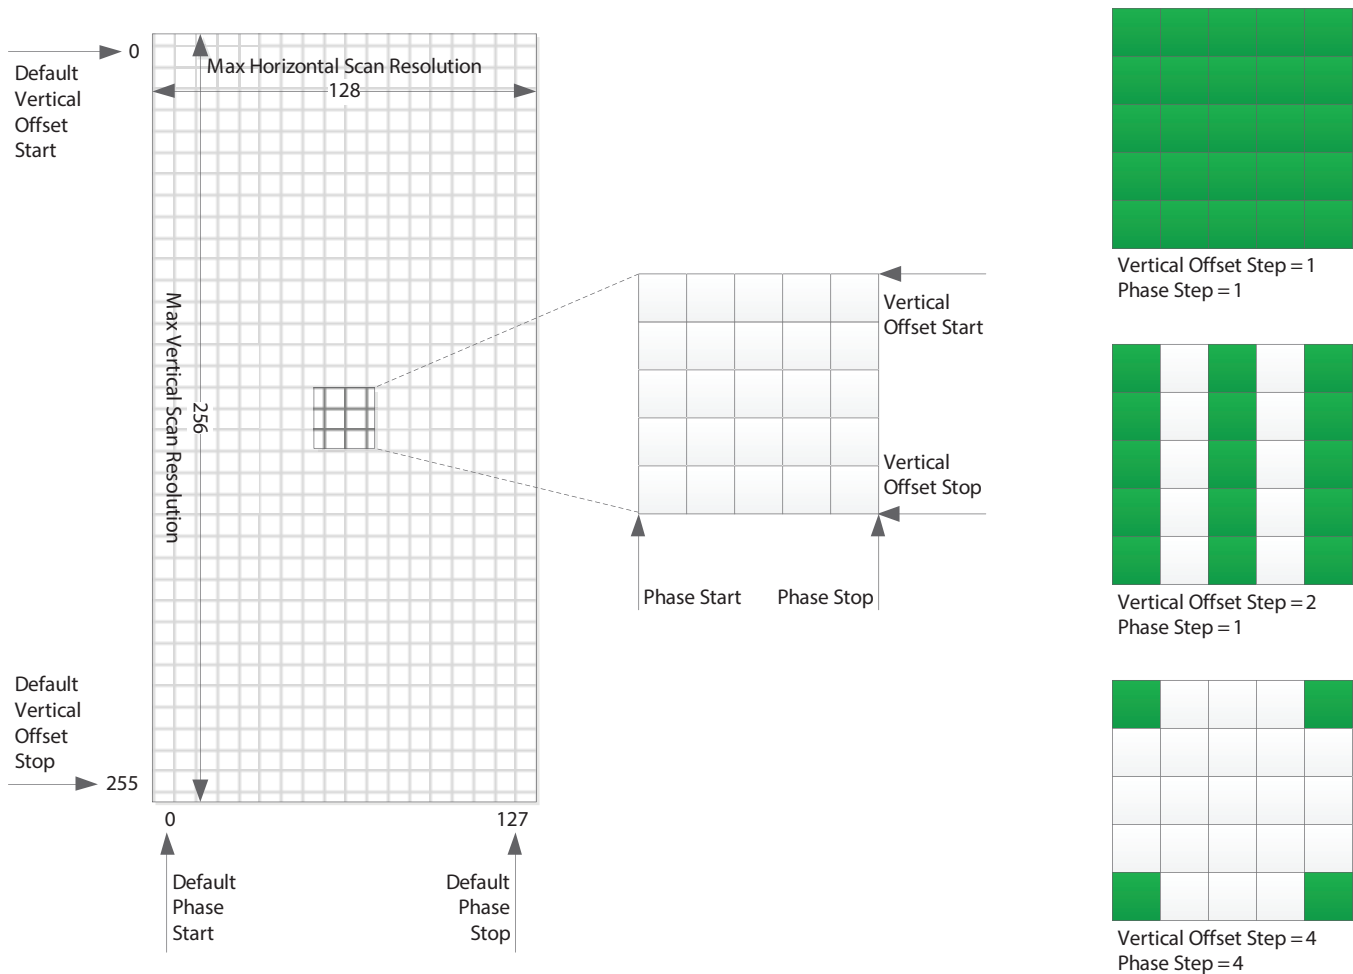

Figure 4-7: Eye Scan Matrix Parameters
Figure 4-7 shows a visual representation of the scan matrix and indicates the spatial parameters that determine the scan area and resolution. Running a scan using the default offset and step parameters, results in 32768 (128x256) samples. The number of samples and thus, the total scan time can be reduced to meet the needs of the application. The scan area can be reduced by reducing the span determined by the vertical and phase start and stop offsets, or the resolution can be reduced by increasing the step size between adjacent samples. On the right in Figure 4-7, there are three step settings used as examples, however there are a total of nine combinations possible. See Table 4-7 for the register addresses and parameter names of the spatial eye scan parameters.
- ◆ Making reference to the Matrix shown in Figure 4-7, the eye scan data starting at $6CC3_h$ is stored in order from left to right, top to bottom, from the last stored vertical/horizontal position in the matrix.